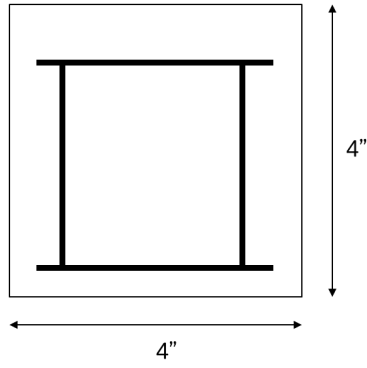
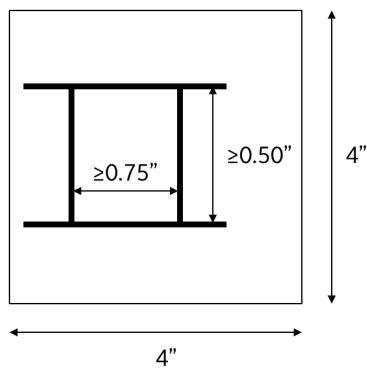

Figure 2. Closed Square Beam Maximum Dimensions
Figure 4. Square Beam Web and Cap Gap Maximum Dimensions
3.3. Criteria for Square Beam Bridges. Square beam bridges are permitted to have a closed or open cross-section but are not permitted to have a solid cross-section along any length of the bridge. Square beams must have two or three independent webs; webs do not have to be perpendicular to the caps. The webs must maintain a minimum gap of 0.75 inches and the caps must maintain a minimum gap of 0.50 inches. Caps are permitted to extend past the web. The radius of the web-to-cap fillet must be no greater than 0.5 inches. The maximum dimensions for Square Beams are shown in Figures 2 and 3. The web and cap gap requirements are shown in Figure 4.